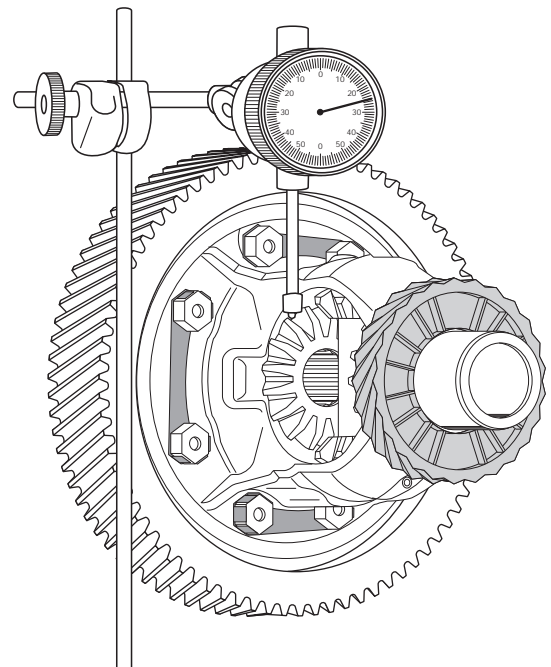

Figure 82
2. Use a dial indicator and measure the backlash between the side gears and pinion gears as shown in Figure 82. (*Backlash is referred to as the amount of free-play between the gears.*)
3. If backlash is not within specification, remove the cross shaft retaining pin and disassemble the differential carrier assembly using the diagram in Figure 80 as a reference, and refer to thrust washer thickness chart in Figure 82 and select an appropriate washer to bring backlash into proper tolerance. Adjust until backlash is equal at both side gears.